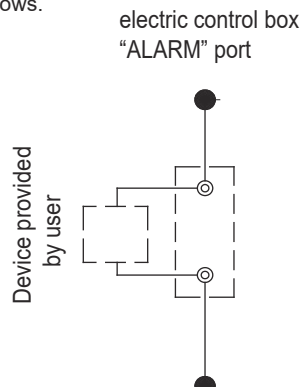

Fig. 8-23 Wiring of “ALARM” port
- h) The by-pass pipes and by-pass valves as shown in Fig.8-23 must be mounted for the heat exchanger, to facilitate cleaning of the outside system of water passage before the unit is adjusted. During maintenance, the water passage of the heat exchanger can be cut off without disturbing other heat exchangers.